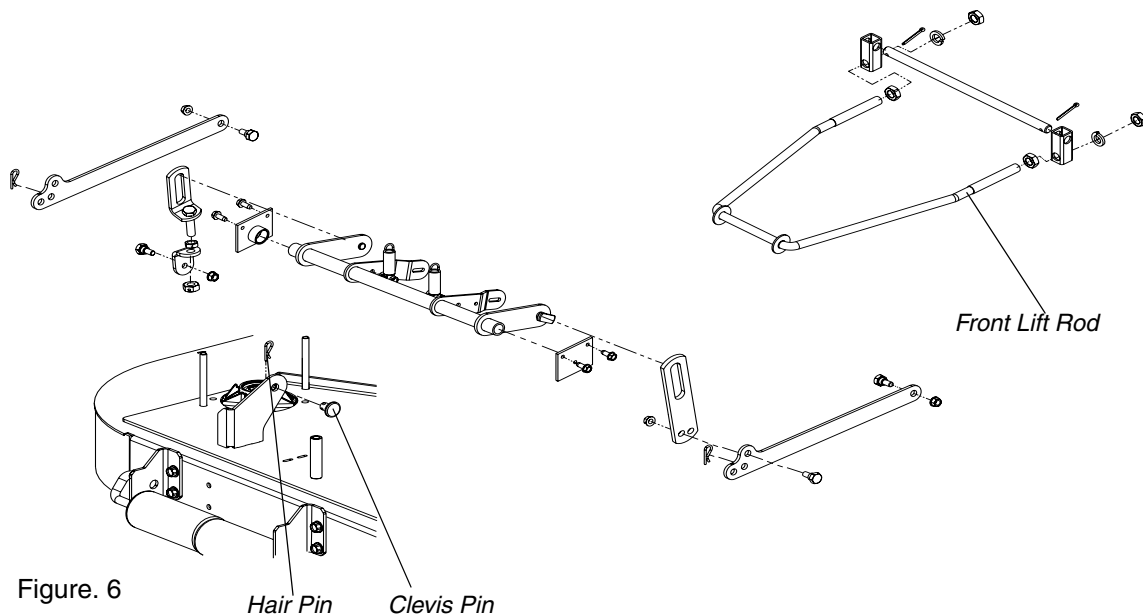

Figure. 6
- Remove the two (2) Hair Pins and two (2) Clevis Pins on the left and right rear side of the cutter deck. Shift the deck forward to release the Front Lift Rod from the Deck Front Lift Bracket. (See Figure 6)